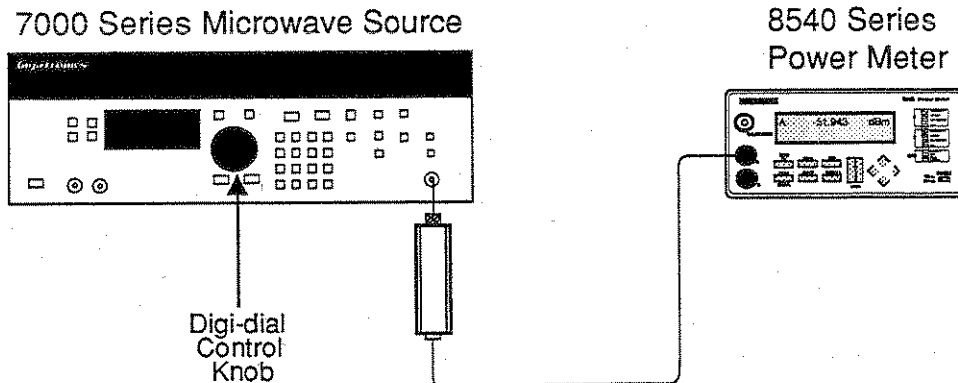

Figure 1. Measuring Output Power.
1. Connect the power sensor to the microwave source as shown in Figure 1.